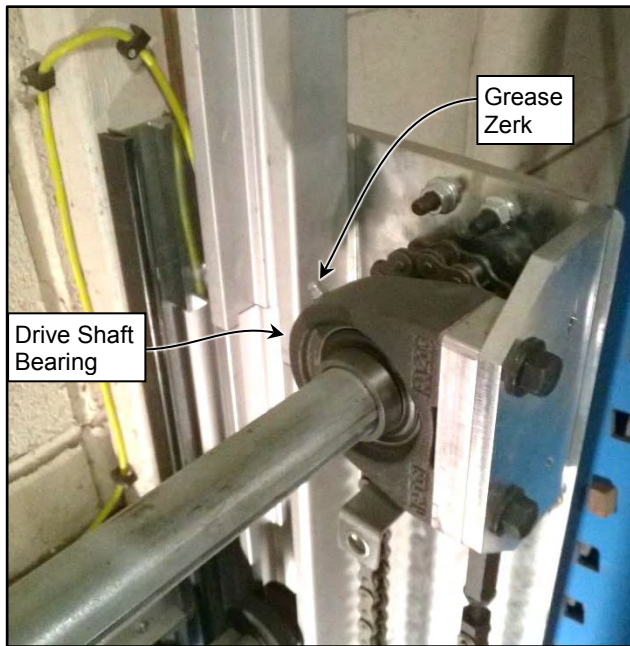

Figure 33
3. **Drive Shaft Pillow Block Bearings:** The drive shaft & chain are supported by two pillow block bearings, which are located at both ends of the Head Assembly. The bearings each have a grease fitting. (See Figure 33)